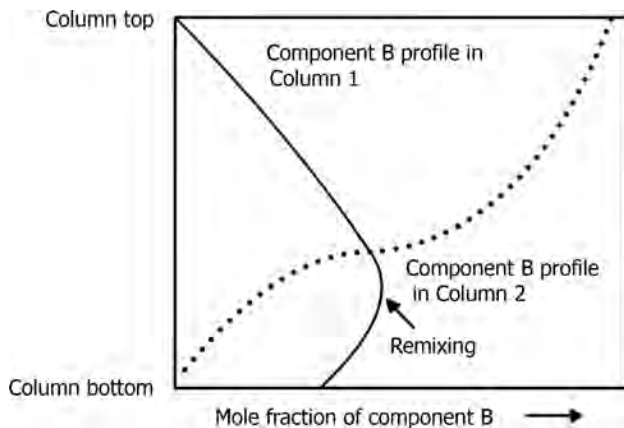

FIGURE 17.38 Remixing in the conventional direct distillation sequence.
- > Figure 17.38 gives the concentration profiles.